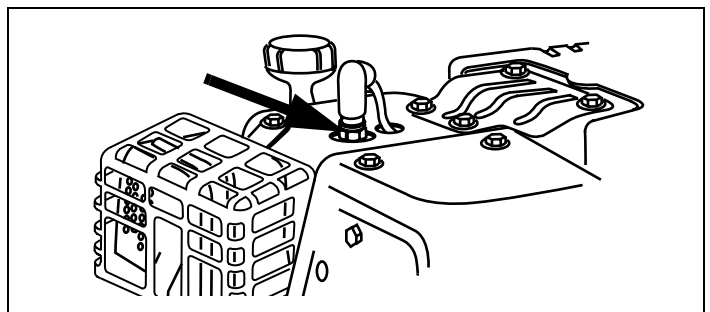

Figure 4. Typical Spark Plug Connection
- Attach the spark plug wire to the grounding post, if provided. See Figure 4.